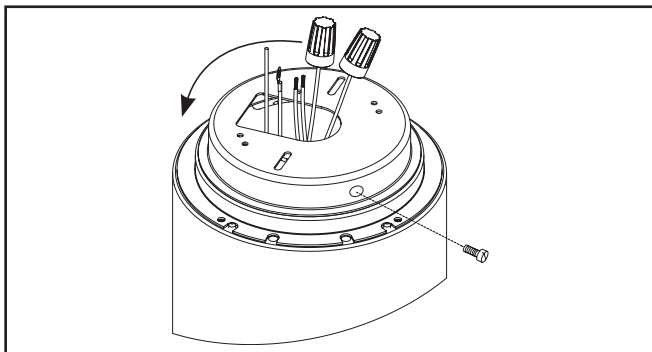

Figure 1.
2. Rotate the mounting plate in anticlockwise direction to separate from assembly and to remove from cylinder (Figure 1.).